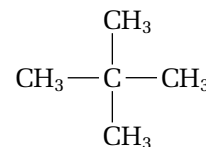

Figure 13.31 Can you name this alkane?
- Write the suffix -ane. (See Figure 13.31 for practice.)